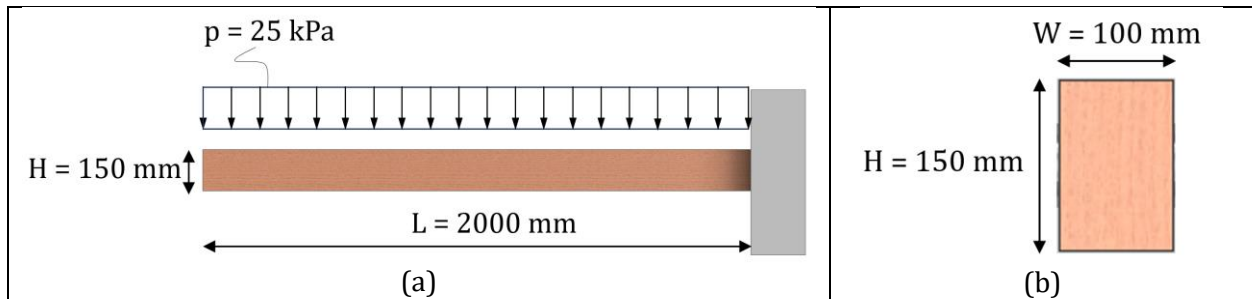

Figure 2-1 – Cantilever beam.
The cantilever beam with dimensions and applied load is shown in Figure 2-1.
In this section, you will create a 2D model of the beam by sketching the two-dimensional profile of the beam (a rectangle) as shown in Figure 2-1(a).
- b. Click the mouse **Esc** or **Cancel** (X) in the prompt area to exit the rectangle tool.
- d. Use the dimension tool () to dimension the top and left edges of the rectangle. The top edge should have a horizontal dimension of **2000** mm, and the left edge should have a vertical dimension of **150** mm. See Figure 2-1. When dimensioning each edge, simply select the line, Left-click to position the dimension text, and then enter the new dimension in the prompt area.
Note: This value is the width of the beam (see Figure 2-1(b)).